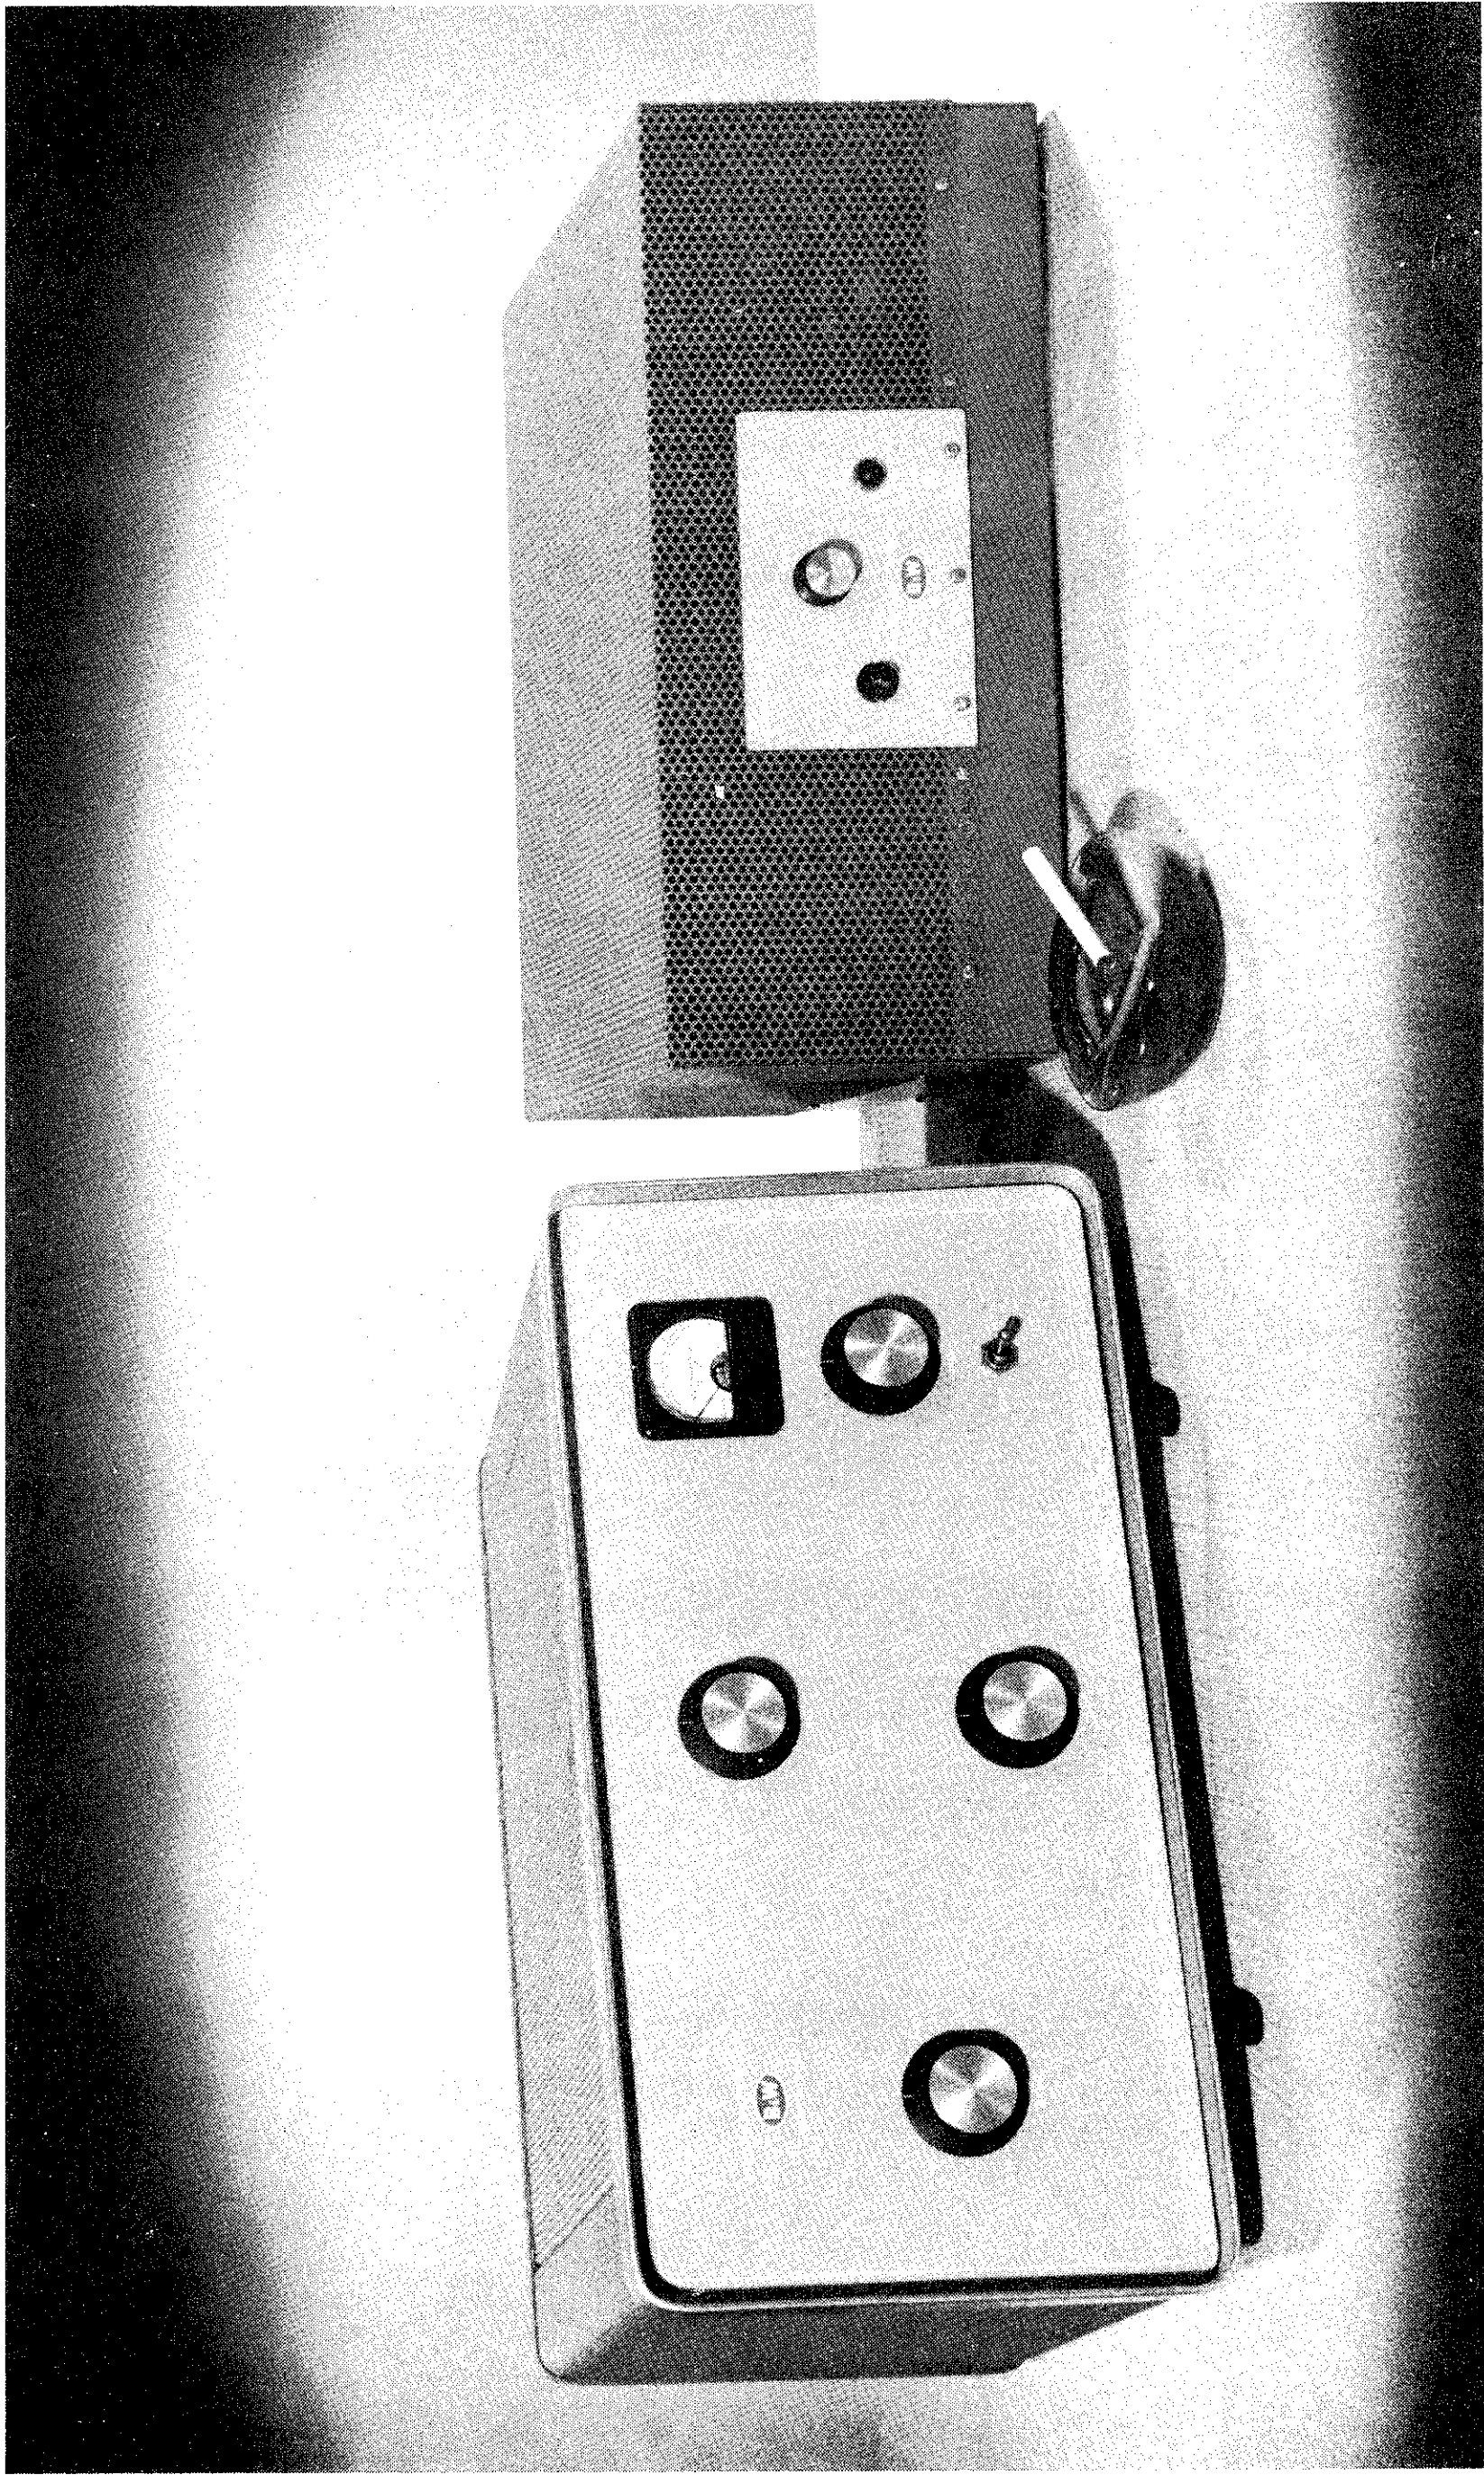

FIGURE 1. MODEL LPA-1 LINEAR POWER AMPLIFIER AND MODEL LPS-1 POWER SUPPLY
a. The B&W Model LPA-1 Linear Power Amplifier (fig. 1) is designed for desk-top operation. Full legal input power is easily obtained for CW and SSB emission. Linear AM operation is limited to within the dissipation ratings of the power amplifier tubes.
b. The Model LPA-1 Linear Power Amplifier has a self-contained filament and bias supply for the power amplifier tubes. A companion power supply, B&W Model LPS-1 Power Supply, (fig. 1.) was designed to furnish the high voltage, power controls and protection circuits for the most efficient operation of the amplifier, although any well designed and constructed power supply that will furnish the required high voltage and current, may be used.